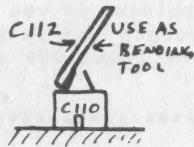

Fig. 2B
2. Use the C112 PC extender board as a tool to gently bend the two rows of solder tail leads inward symmetrically. Figure 2B.